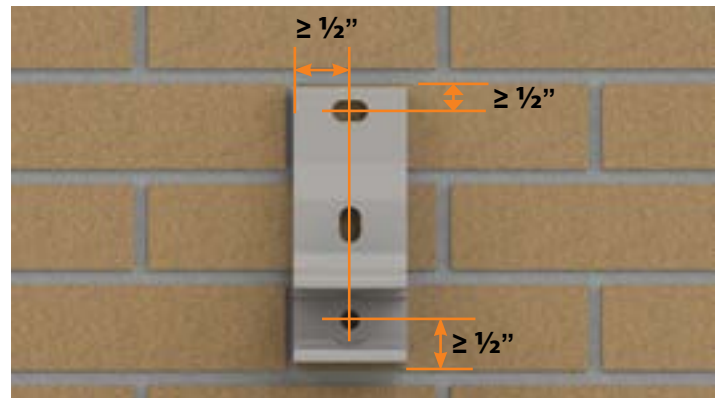

Fig.30
4. For proper support, the masonry fasteners supplied with this awning must be installed in the main body of the bricks not within 1/2" of the outer edge of any brick (Fig.30). Dry fit a wall bracket at the mark previously made, and examine the locations of the mounting holes. If any holes correspond to joints in the brick or fall within 1/2" of a brick, reposition the mounting line, left-right position of the awning, and/or bracket locations respectively as needed.